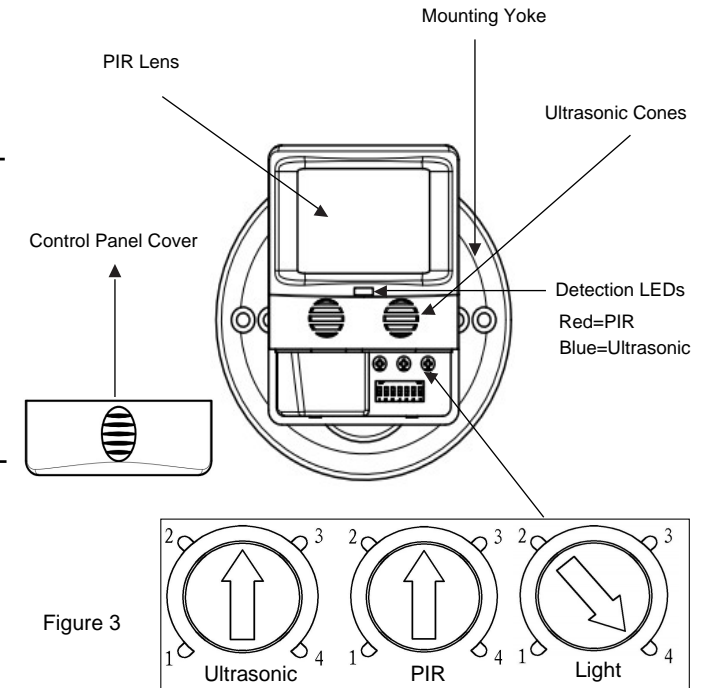

Figure 3
7. Locate the adjustment knob on the control panel to perform test and adjustment.(illustrated as Figure 3. )